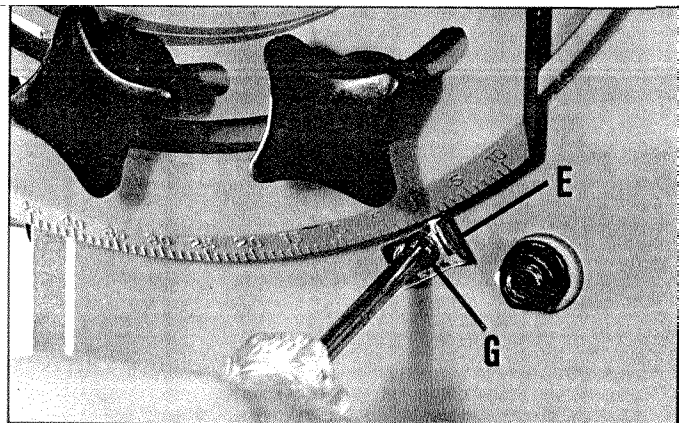

Fig. 4
1. Assemble the pointer (E) to the saw frame, as shown in Fig. 4, using screw (G).